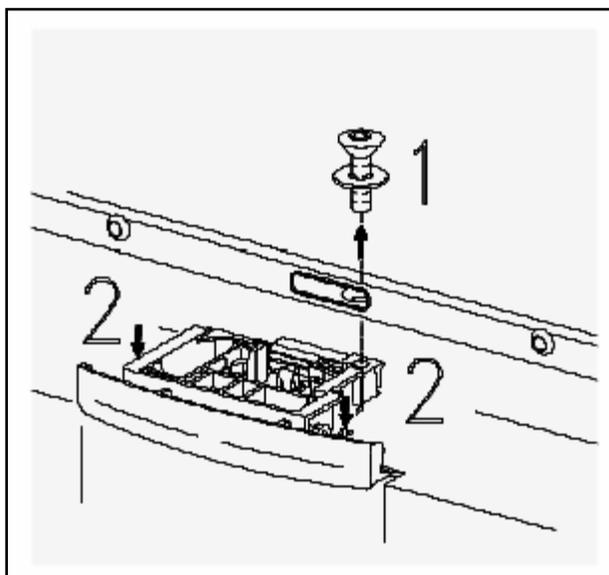

Figure 5-15: Door Lock Removal
2. Remove the retaining screw, Figure 5-15 - Item 1.
3. Press down the retaining lugs with a screwdriver, Figure 5-15 - Item 2.